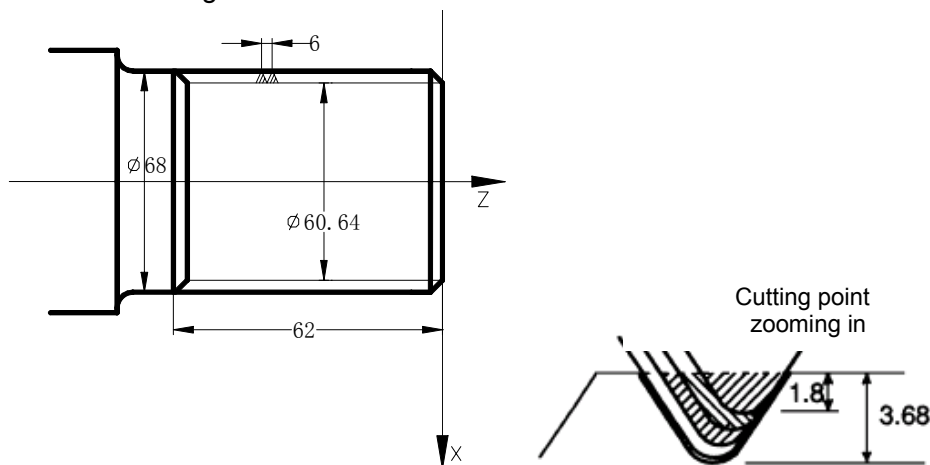

Fig. 4-5-9-3
- Example: the thread cutting compound cycle G76 compiles a program shown in Fig. 4-5-9-3, and the machining thread M68×6.